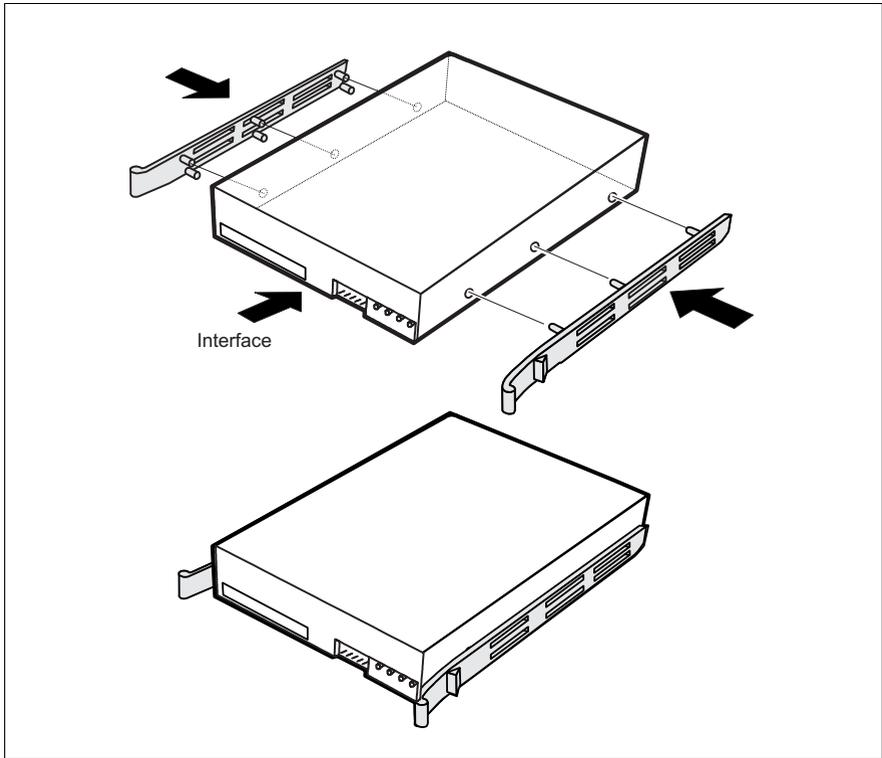

Figure 16: Attaching the rails to the hard disk drive (SATA hard disk drive)
- ▶ Press the EasyClick rails (upper pin row) into the mounting holes of the drive as shown in figure 16. Screws are not necessary, the pins at the rails engage into the mounting holes of the drive.